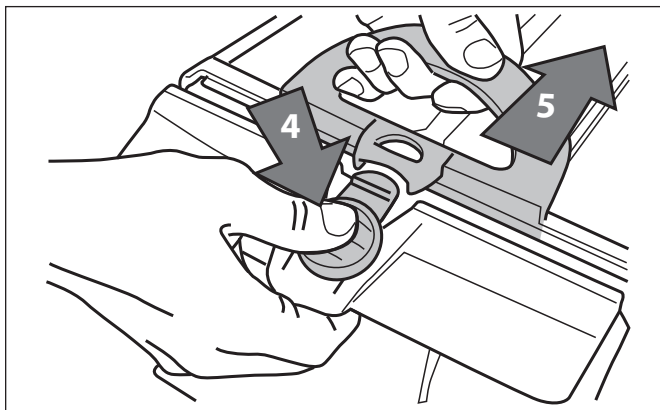

Figure 22. Open Filter Assembly
7. Push the quick release button on the canister assembly (4) and pull open the filter assembly (5). (See Figure 22.)